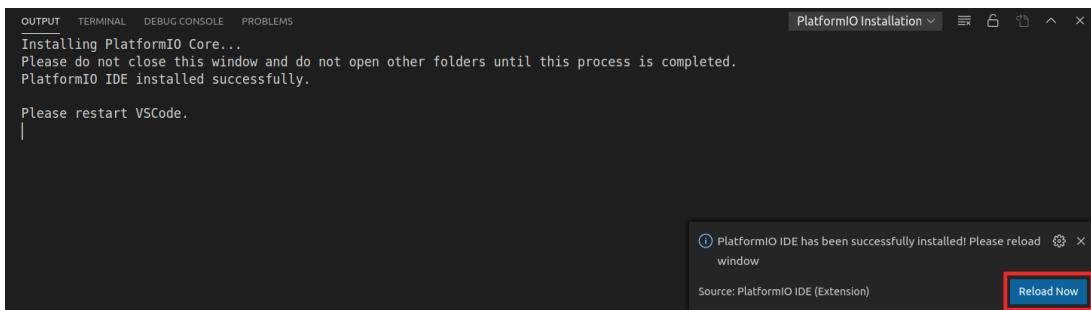

Figure 99. Reload Now after PlatformIO installs
5. The OUTPUT window on the bottom will inform you about the installation process. Once finished, click “Reload Now” on the bottom right side window, and PlatformIO will finish installing inside VSCode (see Figure 99).